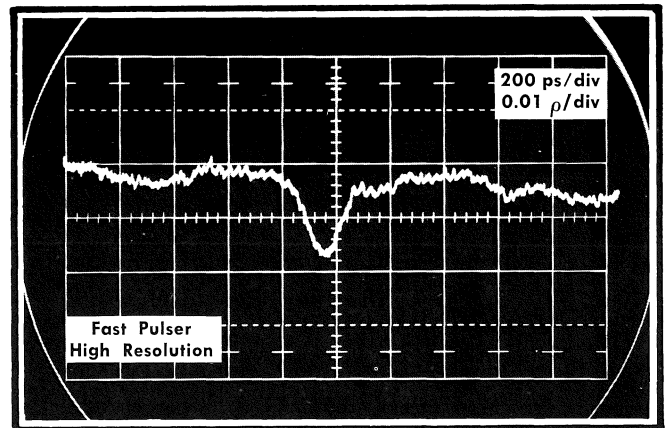

Fig. 2-16. Shunt capacitor, $\approx 0.085 \text{ pF}$, caused by compressing RG8A/U coaxial cable with pliers.
Fig. 2-16 is an example of a small shunt capacitor placed across a 50 Ω coaxial cable by compressing the cable outer diameter. Since the cable (RG8A/U) has normal impedance variations along its length, the peak reflection from the capacitor can only be approximated. Assuming a ρ of -1 division in Fig. 2-16, then by formula (12), the capacitance is approximately 0.085 picofarads.